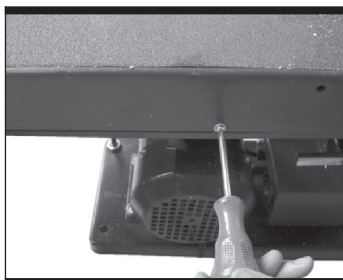

Fig 19-4
- 4) Loosen and remove the two screws on the belt side cover. (Fig 19-4)